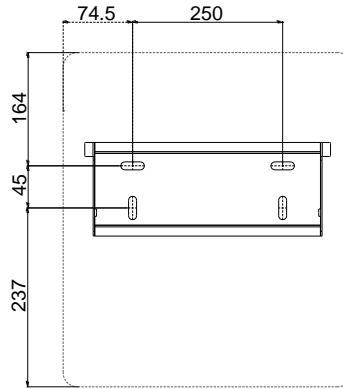

FIG.6-6 Drilling Positions (W x H, 399 x 446mm)
1) Use the wall-mounting bracket as a template and mark the positions of the drill holes, then drill the 4 holes accordingly, as per FIG. 6-6. (Diameter = 11mm, Depth \geq 55mm).
Note: The external dimensions (W \times H) of inverter are shown as dash line in FIG. 6-6.